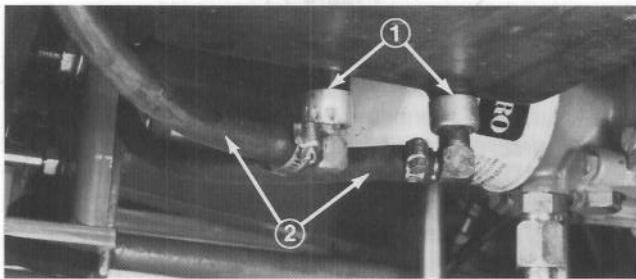

Figure 69
7. Loosen clamps holding both fuel lines on fuel tank fittings. Pull lines off fittings and allow gasoline to flow into large gas can (Fig. 69).
2. Push fuel lines onto fuel tank fittings (Fig. 69). Tighten clamps to secure the lines on the fittings.